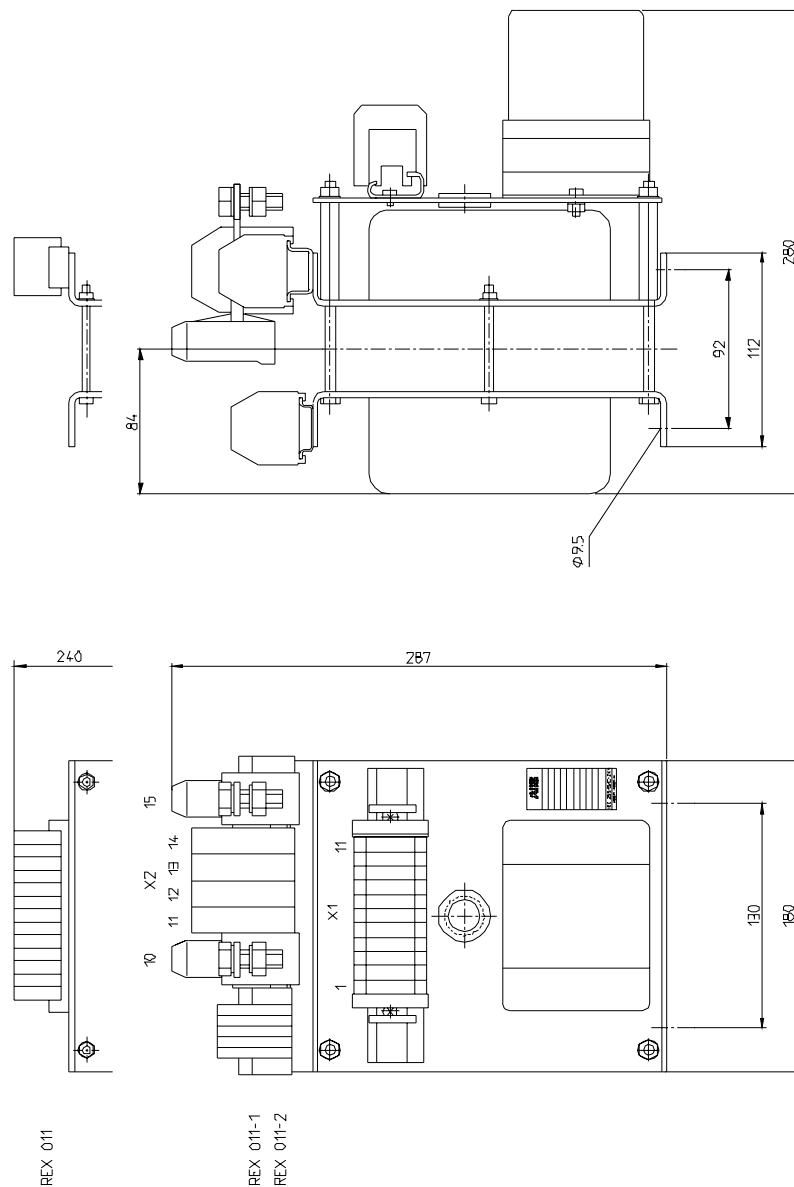

Fig. 2.11 Dimensioned drawing of the injection transformer block Type REX 011 (corresponds to HESG 324 388)
- Fig. 2.11 Dimensioned drawing of the injection transformer block Type REX 011
Wiring diagram for secondary injection of the stator at the terminals using REX 011-2 (see Fig. 2.11)